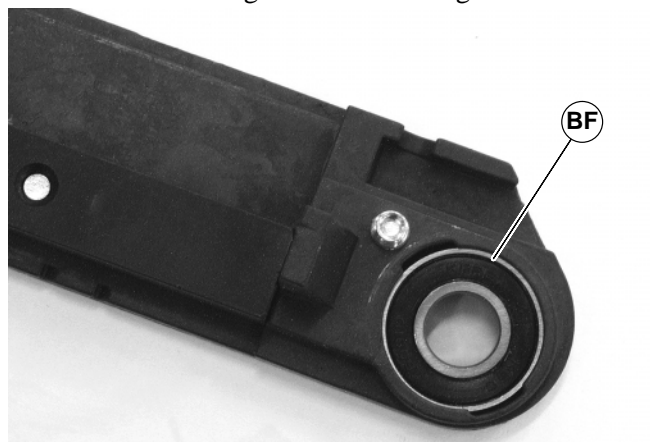

Figure 38
2. Insert bearing (BF of Figure 38) into head plate slot and twist bearing to fit into bearing enclosure.